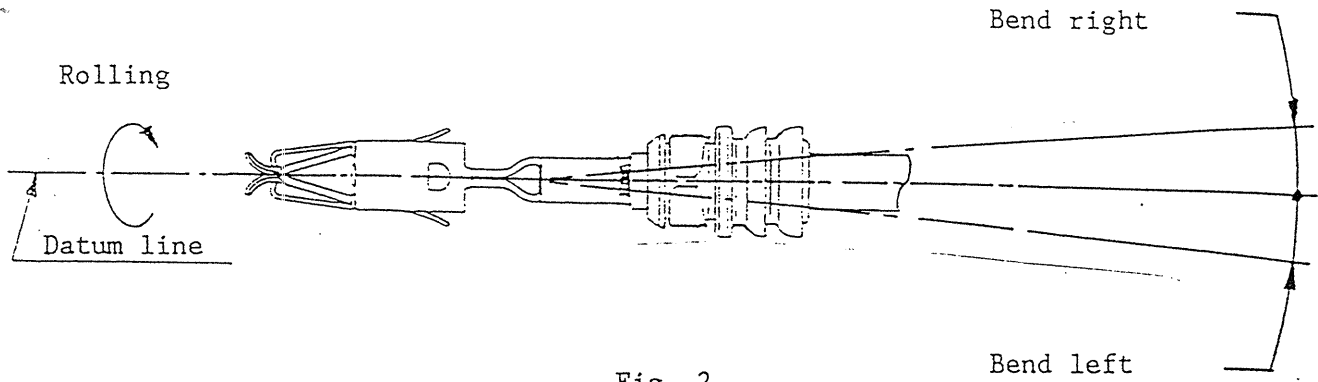
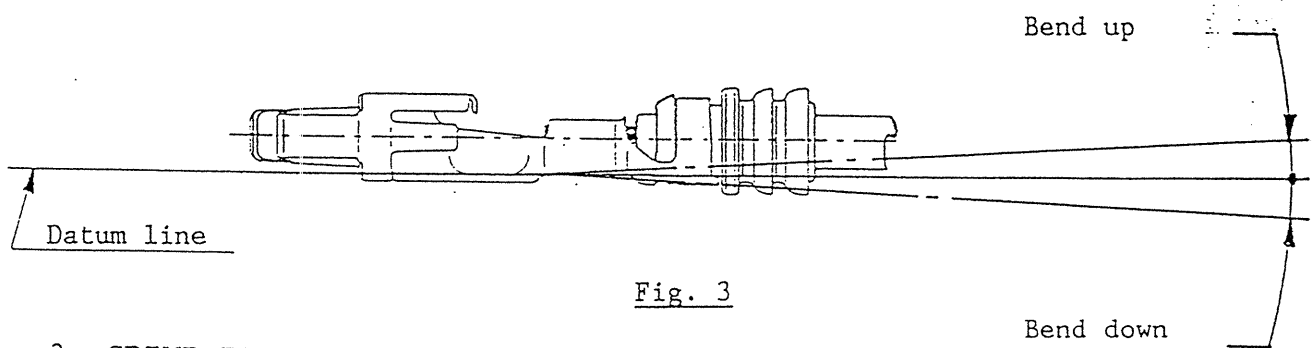

Fig. 2
Fig. 3
Fig. 2 and Fig. 3.
5.1 After crimping, that part of the insulation of the cable that is inside the seal shall be in good condition and still be within the parameters shown in Figure 3. Check by visual inspection in the transition area (between wire and insulation barrel), as indicated in Figure 5.